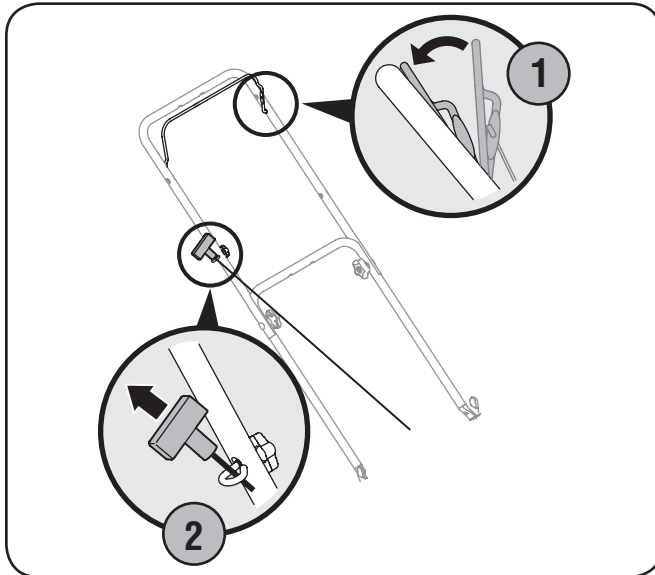

Figure 9-3
1. Standing behind the mower, depress the blade control handle and hold it against the upper handle. See Fig. 9-3.